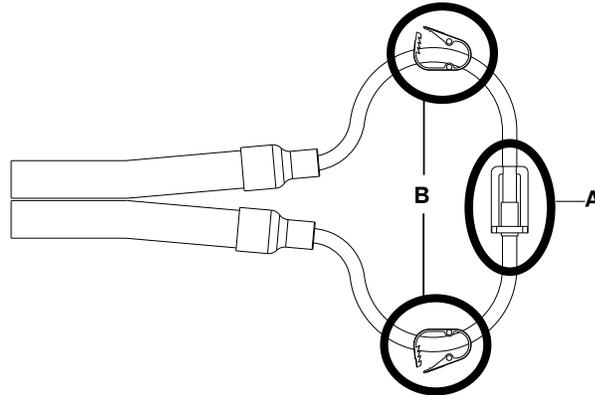

Figure 27: Clik-Tite hose ends are closed and clamps are open
- b. If you have **Clik-Tite** hoses, make sure that the connector ends are connected and closed (A), and clamps are open (B). Complete this for all three hoses. Figure 27 on page 41